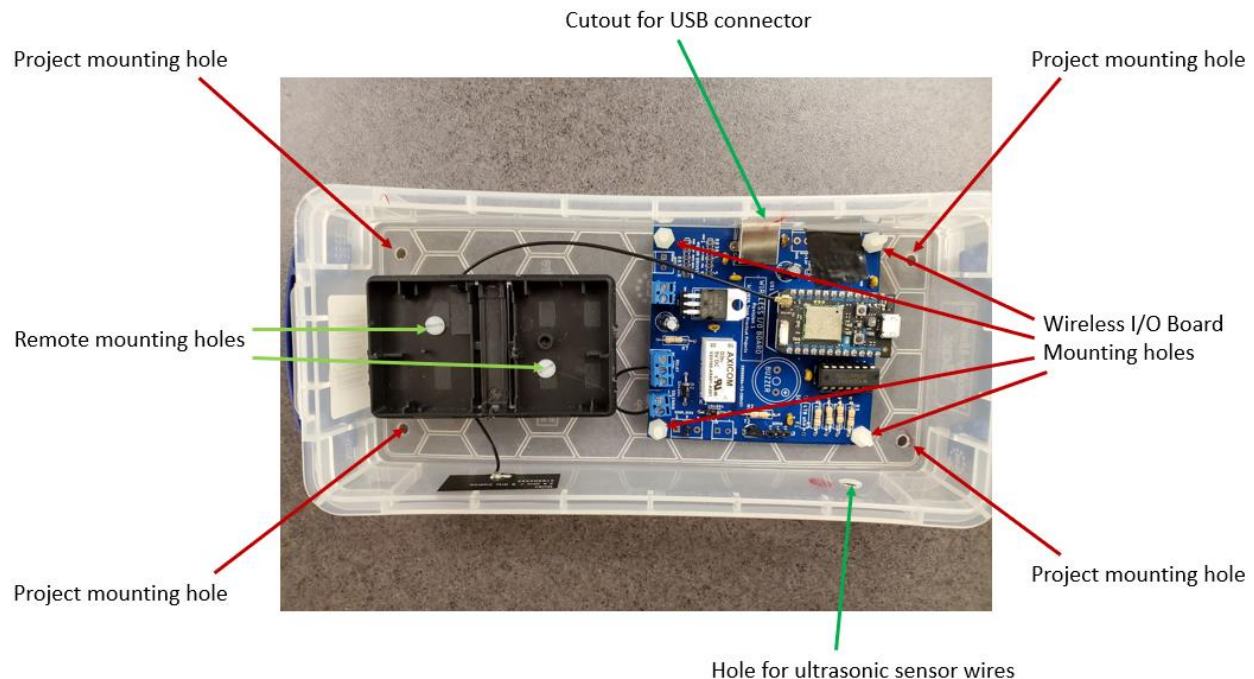

Figure 4-5. Mounting electronic Parts in the Project Enclosure.
The next step is to drill out the plastic project enclosure (pencil box) to accommodate these components. Use figure 4-5 as a guide:
- Drill 4 holes in the corners of the enclosure for mounting the enclosure in the garage (11/64" holes will suffice for mounting with #6 wood screws). These holes are clearly visible in figure 4-5.
- Locate the back of the garage remote unit in the enclosure as shown in figure 4-5. Mark where the open ends of the standoffs contact the enclosure through the transparent rear of the enclosure. Drill these two holes with a 1/8" bit.
- Place the *Wireless I/O Board* in the enclosure, approximately as shown in figure 4-5. Make sure that the project mounting holes are clear of the board and that there is sufficient space between the *Wireless I/O Board* and the garage remote unit to wire the two together. Mark the *Wireless I/O Board* mounting holes and also the center of the cutout for the USB connector. Additionally, mark a location to drill a 1/4" hole in the side
of the enclosure below the *Wireless I/O Board* to run the ultrasonic sensor wires through the enclosure. Locate this hole a little to the right of where the sensor wires connect to the *Wireless I/O Board*; see figure 4-5. Drill these two $\frac{1}{4}$ " holes. Drill out the four *Wireless I/O Board* mounting holes with a $\frac{1}{8}$ " bit.
Mount the *Wireless I/O Board* into the enclosure using #4-40 x 1/2" nylon screws and #4-40 nylon nuts. Connect the external WiFi antenna to the Photon if you plan on using an external antenna and use the antenna's adhesive back to stick it to the side of the enclosure; see figure 4-5.